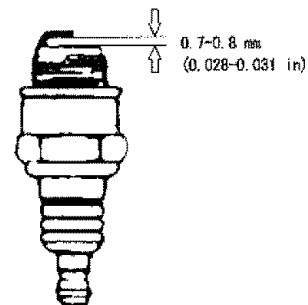

Figure 21- Measuring the spark plug gap
3. Visually inspect the spark plug. If it is cracked or chipped, discard and replace with a new spark plug. Measure the plug gap with a gauge (see figure 21). The gap should be 0.7-0.8mm (0.028-0.031in).